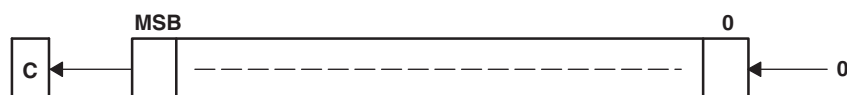

Figure 4-45. Destination Operand-Arithmetic Shift Left
Description	The destination operand is shifted left one position as shown in Figure 4-45 . The MSB is shifted into the carry bit (C) and the LSB is filled with 0. The RLAX instruction acts as a signed multiplication by 2.